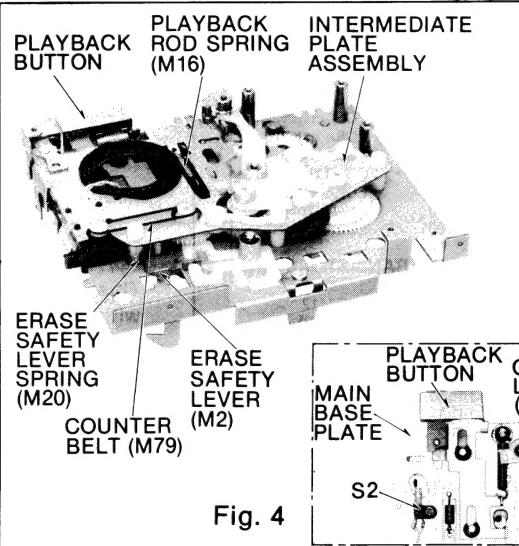

Fig. 4
- Remove the erase safety lever spring (M20) from the erase safety lever (M2). (Refer to Fig. 4.)
- Remove five screws (B), the playback rod spring (M16), and counter belt (M79). The intermediate plate assembly can be removed from the mechanism unit.
- When assembling the intermediate plate assembly, assemble the cue lever (M8) parallel to the edge of the main base plate. Before securing it with screws, insert the erase safety lever spring. (Refer to Fig. 4.)